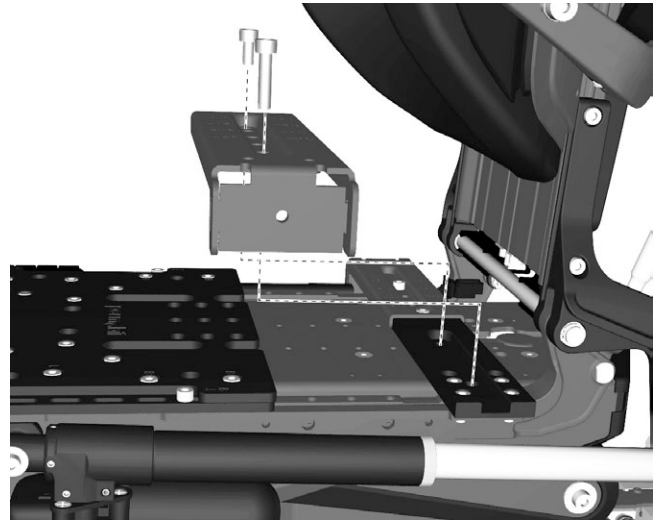

Figure 213. The UniTrack rail brackets is attached with two screws.
6. Remove the rear UniTrack rail bracket on the left hand side of the seat, it's attached with two screws. See fig. 213.